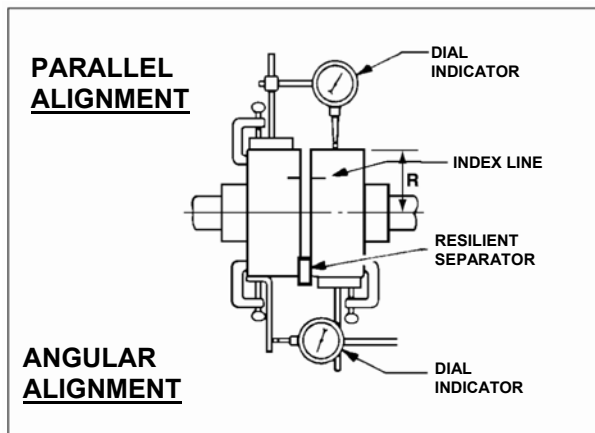

FIGURE 7B – CHECKING ALIGNMENT (METHOD 2)
(See Figure 7B)
- c. Scribe index lines on coupling halves as shown in Figure 7B.
- i. For single element couplings, a satisfactory parallel misalignment is .004"T.I.R., while a satisfactory angular misalignment is .004"T.I.R. per inch of radius R (See Figure 7B).